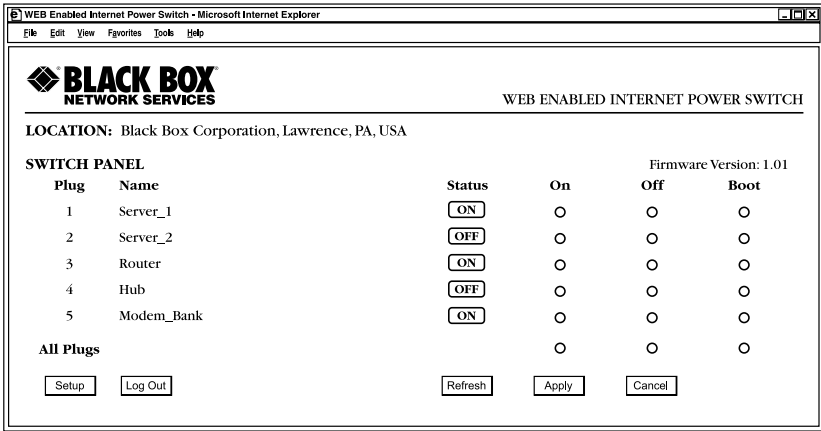

Figure 3-2. The IPS Plug Status screen (Web interface).
2. Password prompt: When you access the IPS via the Web browser interface, the password prompt will always display. If the user name and/or system password have not yet been defined, click **OK** without typing in a user name or password. If the user name and/or system password have already been defined, type in the user name and system password, then click **OK**. The IPS Plug Status screen displays (see Figure 3-2).